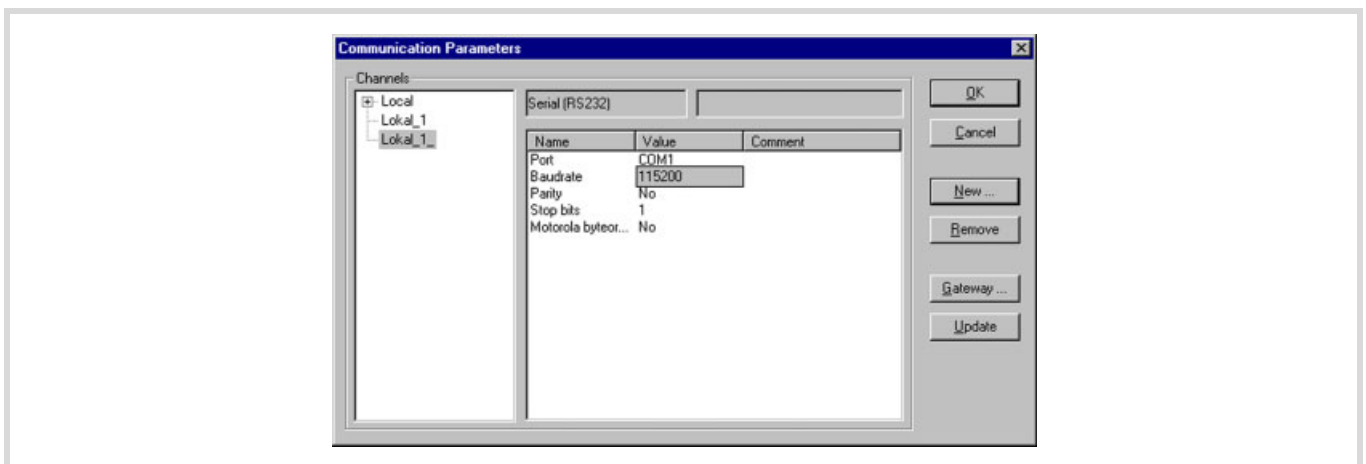

Figure 48: Setting communication parameters
- ▶ Enter the values as entered in Figure48.